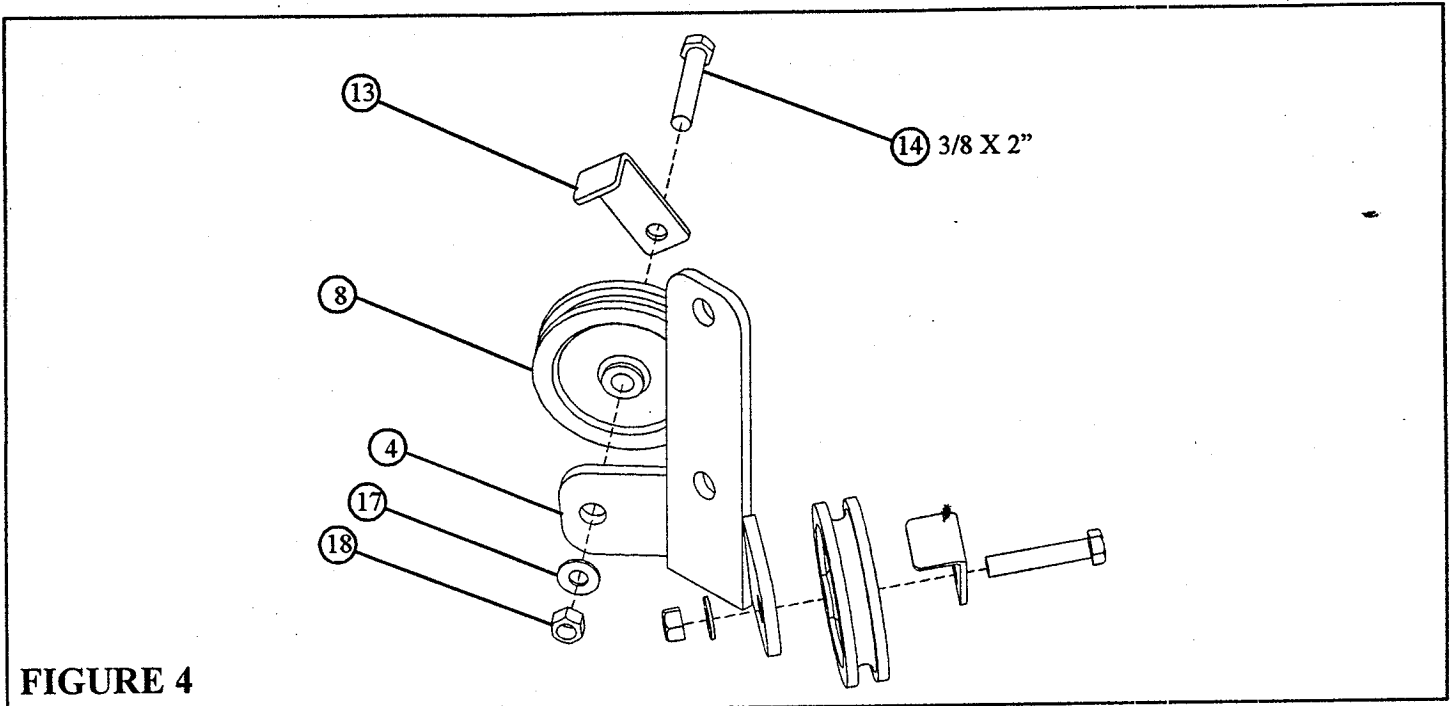

**FIGURE 3**
- Insert four 2" SQ. END CAPS (11) into the ends of the LEFT and RIGHT PEC DEC ARMS (2 & 3) as shown in FIGURE 3.
- Assemble two 4 X 12" ROLLER PADS (7) to the LEFT and RIGHT PEC DEC ARMS (2 & 3) as shown in FIGURE 3. (TIP: Spray window cleaner on the inside of the roller pad to help ease assembly.)